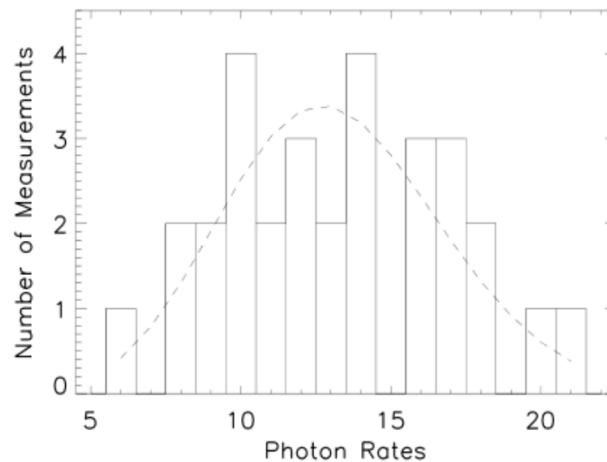

Figure 7: (Solid line) Histogram of the photon count rates; (Dashed line) Expected Poisson distribution with $\mu = 12$.
- Reproduce the Figure 7 below using your own Python code and the table of measurements following it. Your plot does not have to be exactly the same in every detail but must provide a histogram compared with an expected Poisson distribution.
- Plot a Poisson distribution on top of the histogram, as in Figure 7 above. Do the data match this distribution?